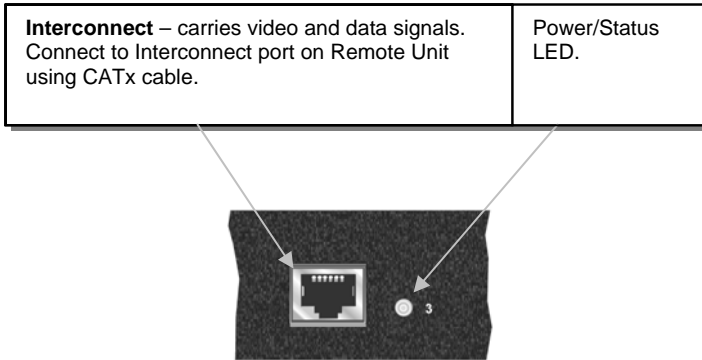

Figure 5 Hub Port - front view
6. Connect the INTERCONNECT socket on each port of the Hub to the appropriate Remote Unit using CATx cable (see Figure 5).